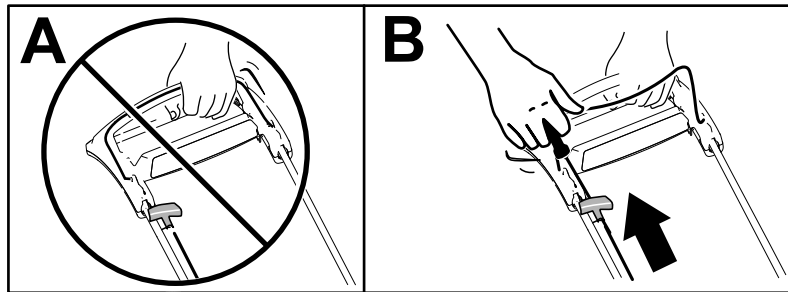

Figure 13
Pull the recoil-start handle (B of Figure 13) lightly until you feel resistance, then pull it sharply, and allow it to return to the rope guide on the handle slowly.
**Note:** Do not pull the blade-control bar to the handle while pulling the recoil-start handle (A of Figure 13).